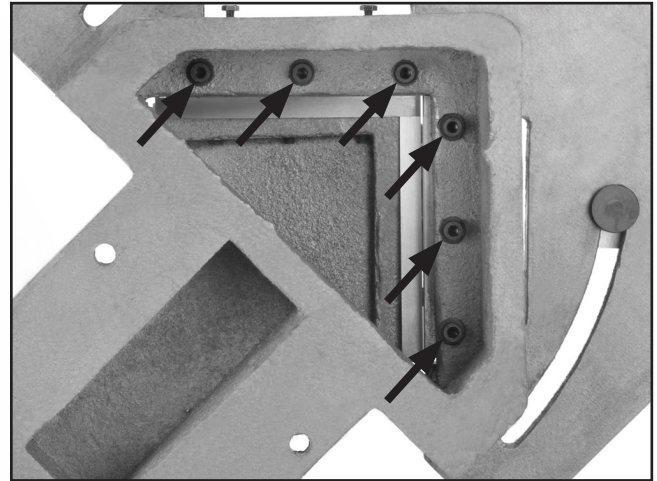

Figure 28. Screws for removing bottom blades.
1. Remove the six cap screws located inside the machine base on the underside of the bottom blades (**Figure 28**).